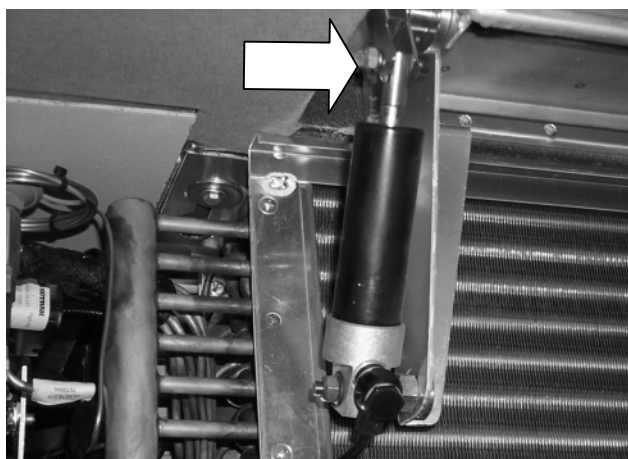
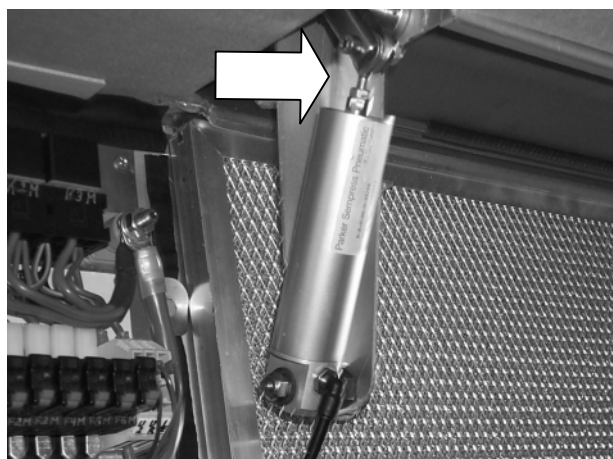

Figure 1: Fresh air flap actuating cilinder with fixed eye at the end of the shaft.
Figure 2: Fresh air flap actuating cilinder with spherical link at the end of the shaft.
In the interest of extended service life, the Cosmotecnica fresh air flap actuating cylinder, with a fixed eye at the end of the shaft (see Figure 1) has been replaced by a Parker component, featuring a spherical link (see Figure 2).
- 2) Locate the faulty cylinder (see Figure 1).